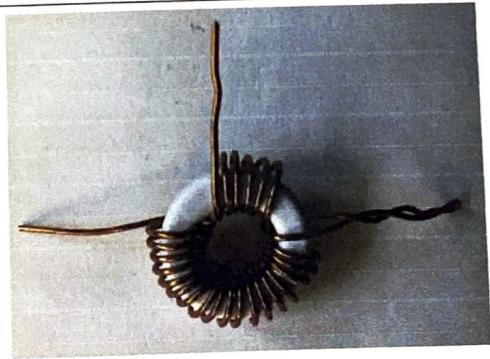
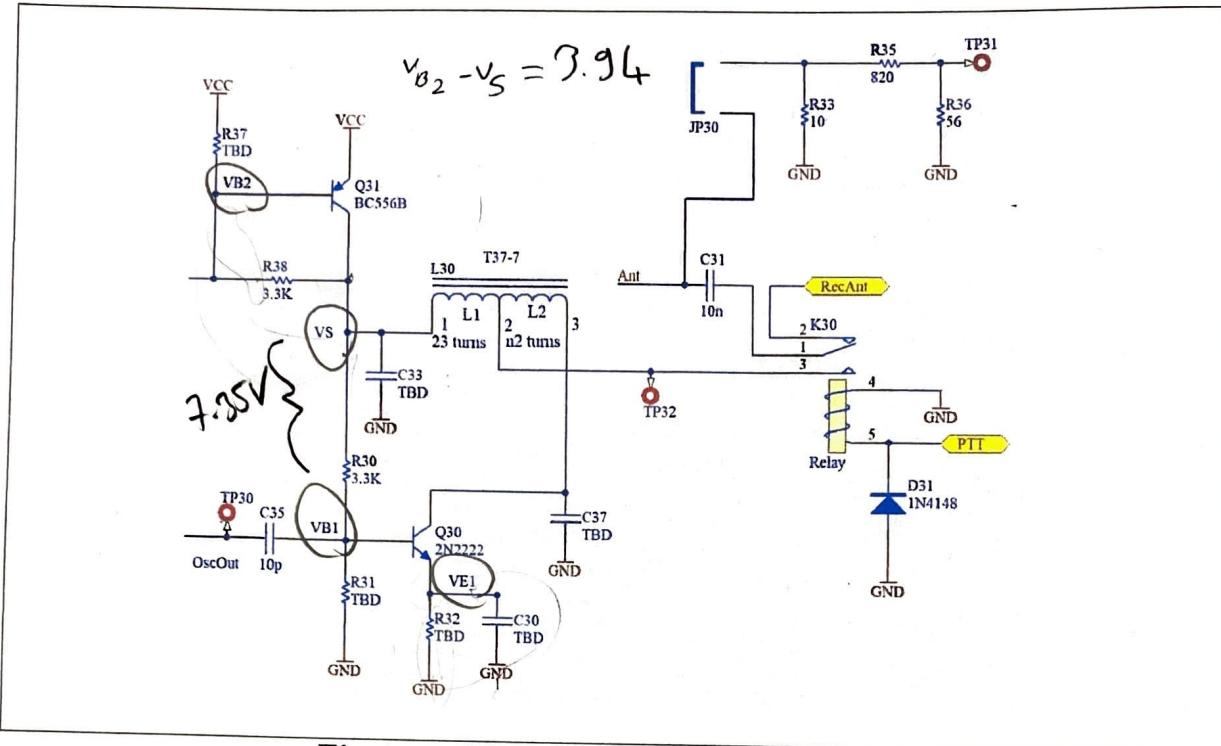

Figure 4: A photo of properly wound tapped inductor example.
Figure 5: Schematic of transmitter amplifier.
1. The tuned RF amplifier to be mounted is the transmitter (TX) amplifier operating at 27 MHz. This circuit is given in Fig. 5. L30 is a tapped inductance. The number of turns of L2 is determined in the preliminary work. It is supposed to transform the impedance of 10Ω to the optimum load resistance of the transistor. Cut 40 cm of 0.35 mm enameled wire to wind L1 and L2 on the T37-7 toroid. T37-7 is a core with an outer diameter of 0.37 inches or 9.4 mm (see p. 402). The windings should be single-layer without scrambles. Randomly wound coils do not perform well. The increased capacitance between the windings has a detrimental effect on the inductance performance. Count the turns of L1 carefully. It is very easy to end up with one turn more. The number of turns is the number of times the wire passes through the toroid. When the windings of L1 are finished, bend and twist the wire for the tap of 1 cm long. Continue winding in the same direction to complete L2. Windings should be similar to the example tapped inductor shown in the photo of Fig. 4. Cut the extra wires at both ends. Scrape the enamel off with a knife at